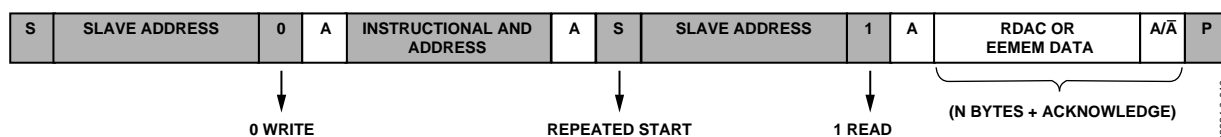
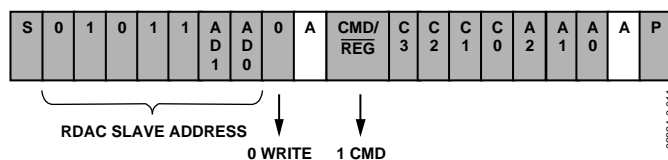
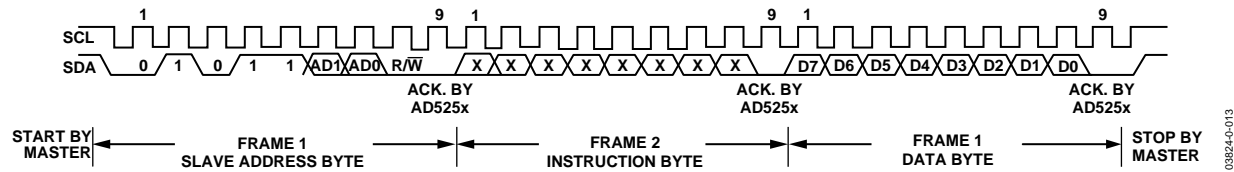
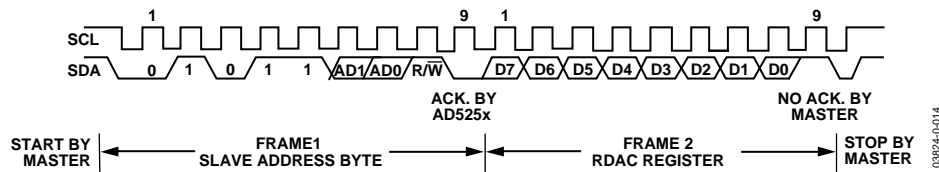

Figure 30. RDAC or EEMEM Random Read
Figure 31. RDAC Quick Command Write (Dummy Write)
Figure 33. General I²C Write Pattern
Figure 34. General I²C Read Pattern
Figure 30 illustrates a random RDAC or EEMEM read operation. This operation allows users to specify which RDAC or EEMEM register is read by issuing a dummy write command to change the RDAC address pointer and then proceeding with the RDAC read operation at the new address location.
The AD5253/AD5254 feature 12 quick commands that facilitate easy manipulation of RDAC wiper settings and provide RDAC-to-EEMEM storing and restoring functions. The command format is shown in Figure 31, and the command descriptions are shown in Table 9.
The first byte of the AD5253/AD5254 is a slave address byte (see Figure 33 and Figure 34). It has a 7-bit slave address and an R/W bit. The 5 MSB of the slave address is 01011, and the next 2 LSB is determined by the states of the AD1 and AD0 pins. AD1 and AD0 allow the user to place up to four AD5253/AD5254 devices on one bus.
AD5253/AD5254 can be controlled via an I²C-compatible serial bus and are connected to this bus as slave devices. The 2-wire I²C serial bus protocol (see Figure 33 and Figure 34) follows:
1. The master initiates a data transfer by establishing a start condition, such that SDA goes from high to low while SCL is high (see Figure 33). The following byte is the slave address byte, which consists of the 5 MSB of a slave address defined as 01011. The next two bits are AD1 and AD0, I²C device address bits. Depending on the states of their AD1 and AD0 bits, four AD5253/AD5254 devices can be addressed on the same bus. The last LSB, the R/W bit, determines whether data is read from or written to the slave device.
the addresses of the EEMEM and RDAC registers (see Figure 27 and Figure 28). When MSB = 1 or when the device is in CMD mode, the four bits following the MSB are C3 to C1, which correspond to 12 predefined EEMEM controls and quick commands; there are also four factory-reserved commands. The 3 LSB—A2, A1, and A0—are 4-channel RDAC addresses (see Figure 31). After acknowledging the instruction byte, the last byte in the write mode is the data byte. Data is transmitted over the serial bus in sequences of nine clock pulses (eight data bits followed by an acknowledge bit). The transitions on the SDA line must occur during the low period of SCL and remain stable during the high period of SCL (see Figure 33).
3. In current read mode, the RDAC0 data byte immediately follows the acknowledgment of the slave address byte. After an acknowledgment, RDAC1 follows, then RDAC2, and so on. (There is a slight difference in write mode, where the last eight data bits representing RDAC3 data are followed by a no acknowledge bit.) Similarly, the transitions on the SDA line must occur during the low period of SCL and remain stable during the high period of SCL (see Figure 34). Another reading method, random read method, is shown in Figure 30.
4. When all data bits have been read or written, a stop condition is established by the master. A stop condition is defined as a low-to-high transition on the SDA line that occurs while SCL is high. In write mode, the master pulls the SDA line high during the 10th clock pulse to establish a stop condition (see Figure 33). In read mode, the master issues a no acknowledge for the ninth clock pulse, that is, the SDA line remains high. The master brings the SDA line low before the 10th clock pulse and then brings the SDA line high to establish a stop condition (see Figure 34).